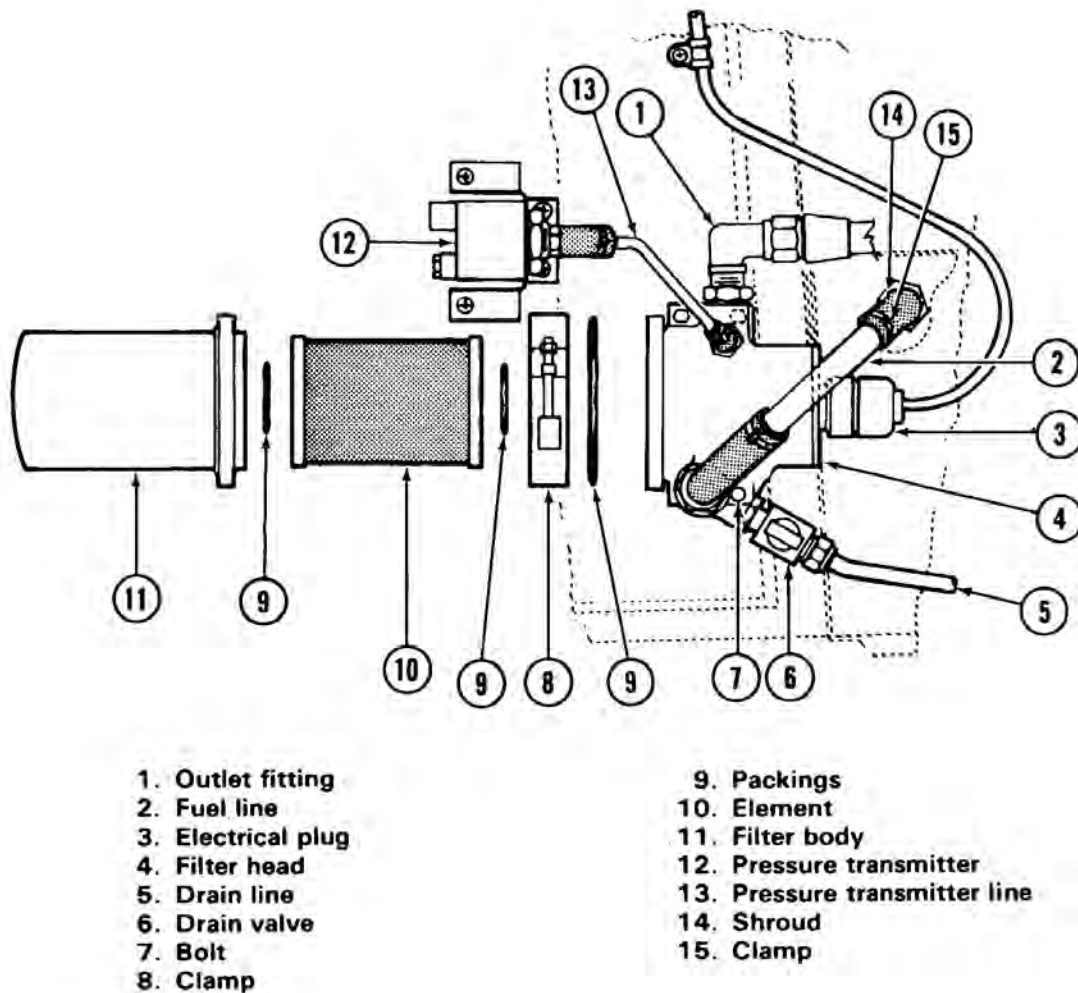

Figure 28-14. Main fuel filter
28.28.1.2 Disconnect fuel hose from outlet fitting (1, Figure 28-14) on filter head (4). Drain fuel from filter by opening drain valve (6) located under filter head (4).